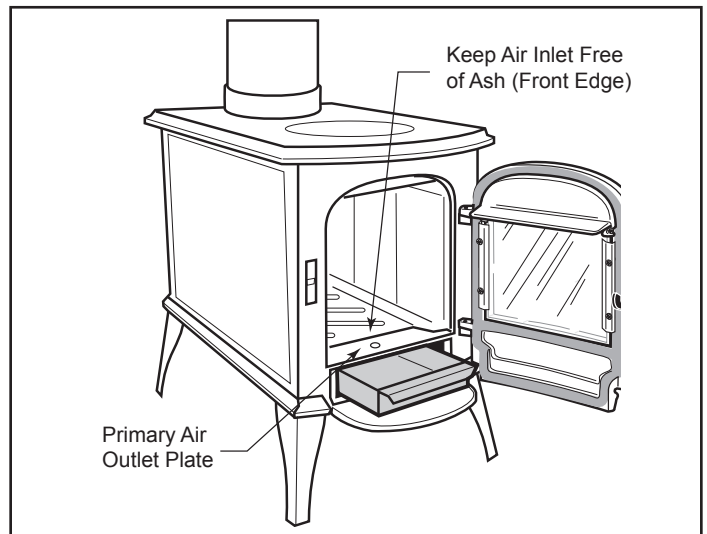

Figure 8.4 - Primary air outlet - keep clear of ash and charcoal accumulation.
Step 3 - Use a fireplace tool to break up the charcoal and direct ash through the grate. Pull the charcoal from the back to the front. This will encourage efficient combustion as the fuel burns from front to rear. Take care, however, not to block the primary air outlet with coals or ash. (Figure 8.4)
IMPORTANT: A critical source of air into the Aspen firebox is located in front of the ash grate as shown in Figure 8.4. If this air slot becomes plugged with ash, a sluggish, cool fire and dirty glass will result. Keep this air slot clear of ash. Refer to the Maintenance section for instructions to more thoroughly clean ash from beneath the primary air plate.